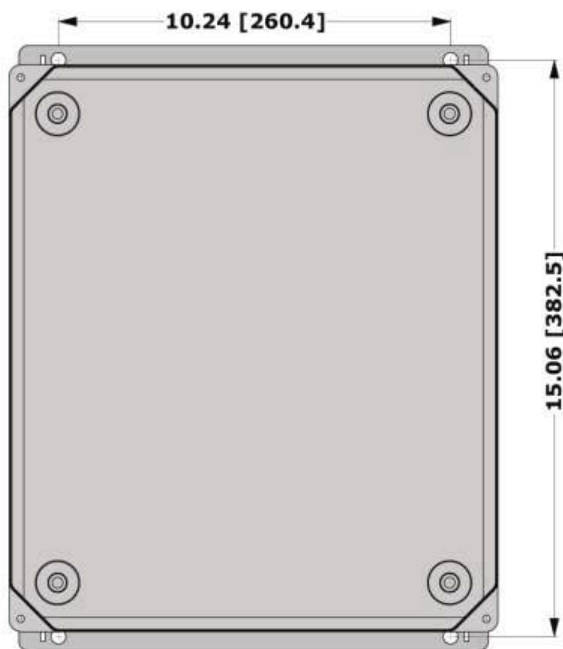

Figure 4-1: M465H Mounting Hole Locations and Dimensions
- Figure 4-1 shows the locations of the four mounting holes.